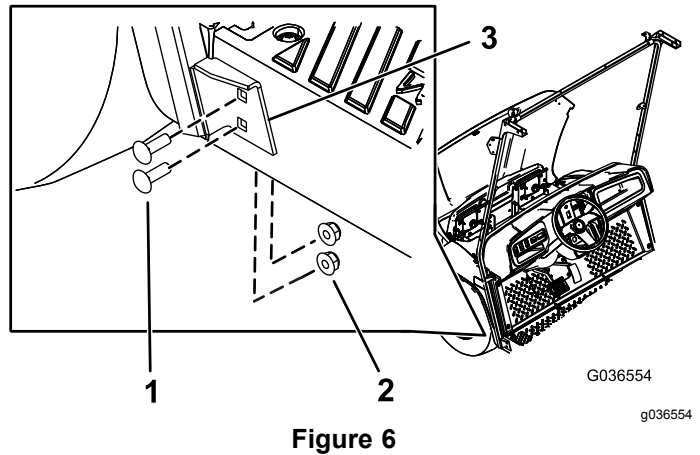

Figure 6
- Secure the lower bracket of the windshield support to the left side of the machine using 4 carriage bolts (5/16 x 1 inch) and 4 flange nuts (5/16 inch) in the holes you drilled in step 2 (Figure 6).